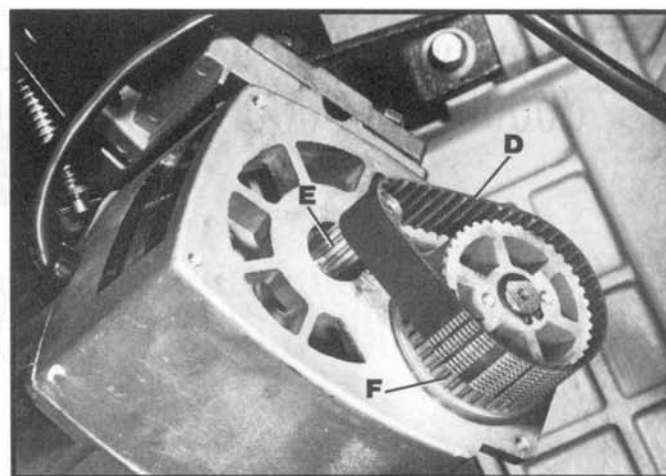

Fig. 51
6. Place new belt (D) Fig. 51, on teeth of arbor pulley (F) and motor shaft (E) as shown. Push in belt (D) and at the same time turn arbor pulley (F) until the belt is completely engaged.